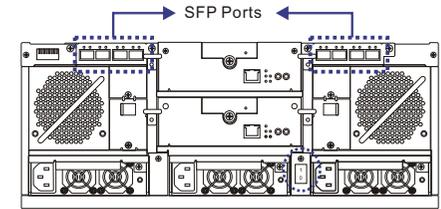

Figure 9: Locations of SFP Ports
After the subsystem has been assigned a permanent IP, a Cat5 Ethernet cable can be used to connect the RJ-45 Ethernet port to a network hub, enabling you to manage your subsystem via standard TCP/IP. (See **Figure 9**)
The A24F-R2224-1 comes with eight (8) SFP ports on two (2) separate host I/O modules for host connectivity and daisy chaining (see **Figure 9**.) SFP transceiver modules and Fibre Channel optical cables are user-supplied items and should be purchased separately. By default, the onboard hub is enabled in both I/O modules. For more information on host connection and sample topologies, please refer to **Chapter 4** of the included **Hardware Manual**.